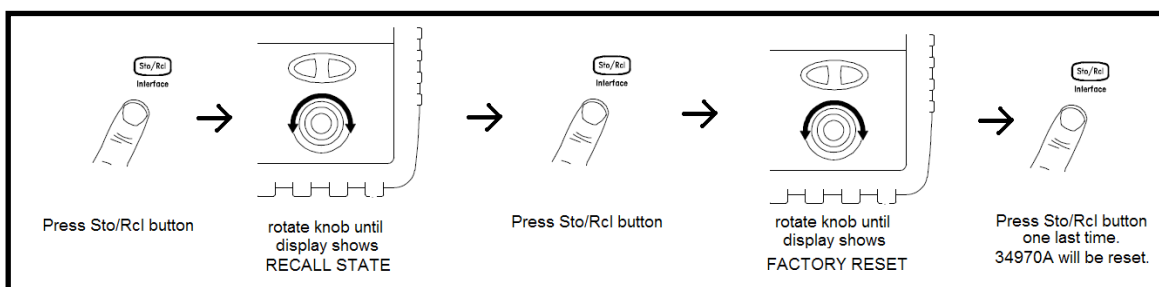

Figure 4 – Reset 34970A into factory reset state
- 2) Set 34972A into Factory Reset state by pressing **Sto/Rcl** button, and selecting menus as shown in figure 4.